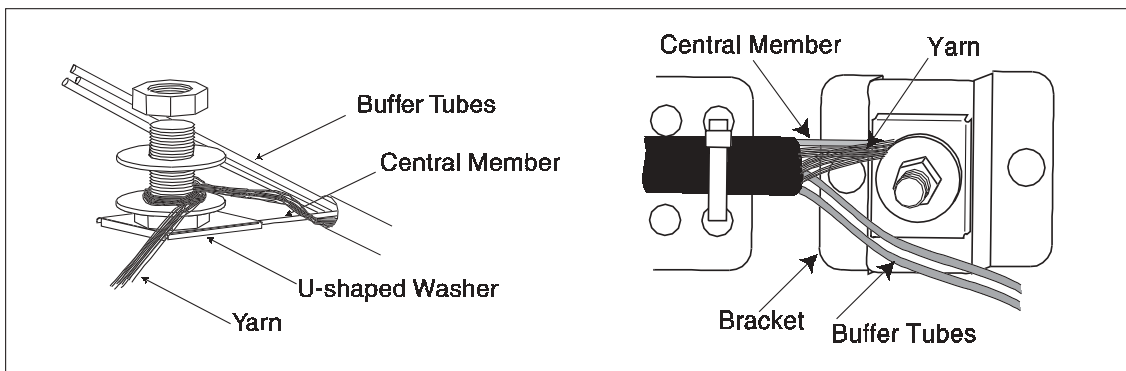

Figure 9
9.6 When central member strain-relief is required, the central member bolt must be installed into the strain-relief bracket as shown (Figure 9).